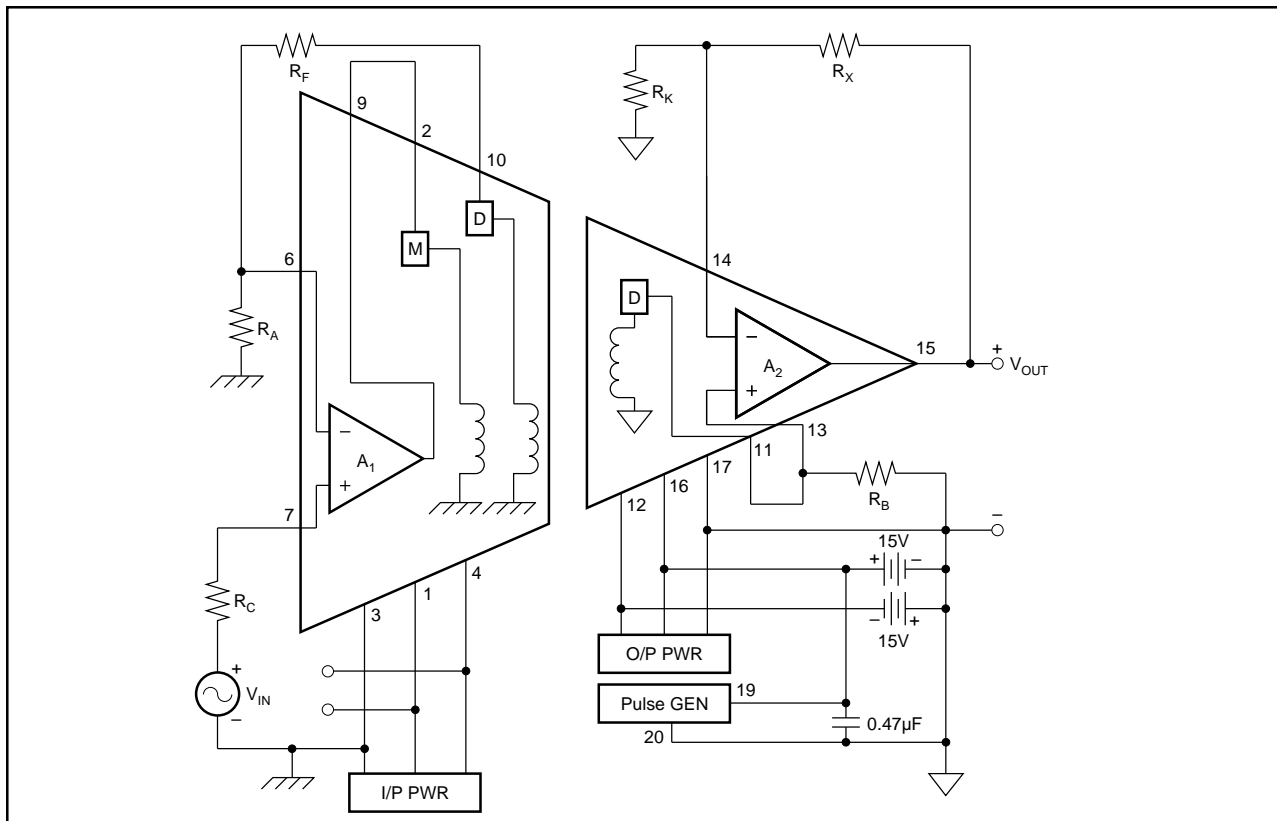

FIGURE 3. Power: Two-Port, Dual Supply; Signal: Noninverting Gain.
NOTES: (1) Ratings in parenthesis are between P– (pin 20) and O/P Com (pin 17). Other isolation ratings are between I/P Com and O/P Com or I/P Com and P–. (2) See Performance Curves. (3) May be trimmed to zero. (4) If output swing is unipolar, or if the output is not loaded, specification same as if external supply were used. (5) Includes effects of A_1 and A_2 offset voltages and bias currents if recommended resistors used. (6) Versus the sum of all external currents drawn from V+, V–, +V, –V (= ISO). (7) Effects of A_1 and A_2 bias currents and offset currents are included in Offset Voltage specifications. (8) With respect to I/P Com (pin 3) for A_1 and with respect to O/P Com (pin 17) for A_2 . CMR for A_1 and A_2 is 100dB, typical. (9) In configuration of Figure 3. Ripple frequency approximately 750kHz. Measurement bandwidth is 30kHz. (10) Decreases linearly from 16VDC at 85°C to 12VDC at 100°C. (11) Instantaneous peak current required from pins 19 and 20 at turn-on is 100mA for slow rising voltages (50ms) and 300mA for fast rises (50μs). (12) Load current is sum drawn from +V, –V, V+, V– (= I_{ISO}). (13) Maximum voltage rating at pins 1 and 4 is ±18VDC; maximum voltage rating at pins 12 and 16 is ±18VDC. (14) Isolation ratings may degrade if exposed to 125°C for more than 1000 hours or 90°C for more than 50,000 hours.
Figure 3 shows two-port isolation which uses an external bipolar supply with its common connected to the output stage ground (pin 17). One of the supplies (either + or - could be used) provides power to the pulse generator (pins 19 and 20). The same sort of configuration is possible with the external supplies connected to the input stage. With the connection shown, filtering at pins 12 and 16 is not required. In this configuration continuous isolation voltage rating is: 3500VDC between pins 3 and 17; not applicable between pins 17 and 19; 3500VDC between pins 3 and 19.
The signal path portion of Figure 3 demonstrates two additional gain configurations: gain in the output stage and noninverting gain in the input stage. The following equations apply:
Use the resistor values obtained in Steps 3, 4, 8 and 9, and connect the 3656 as shown in Figure 3.